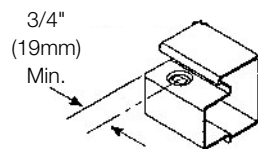

Figure 2
1. Installation of device depends on trim. Note 3/4" (19mm) minimum restriction. (Figure 2)